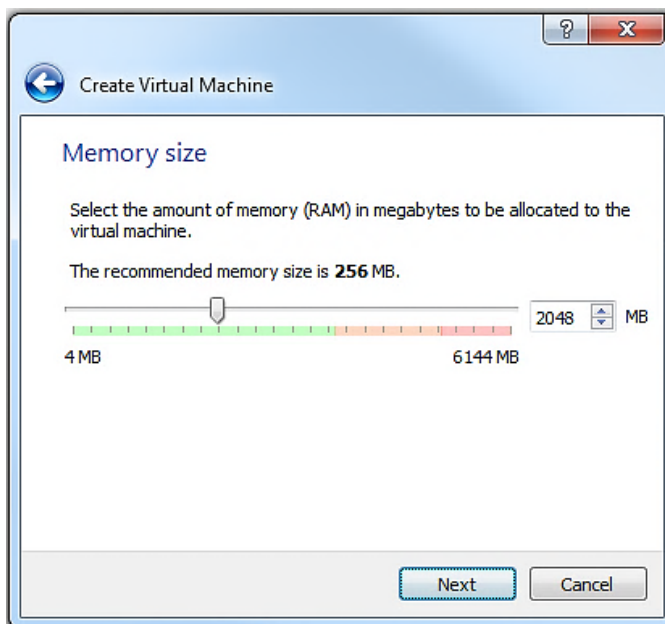

Figure 5: Selecting Memory Size
3. Choose the amount of memory to allot the VM, as shown in Figure 5. Note that this memory will be unavailable to the host while running the VM (i.e., a computer with 4 GB of memory, could probably spare 1 GB for the VM). Choose Next.